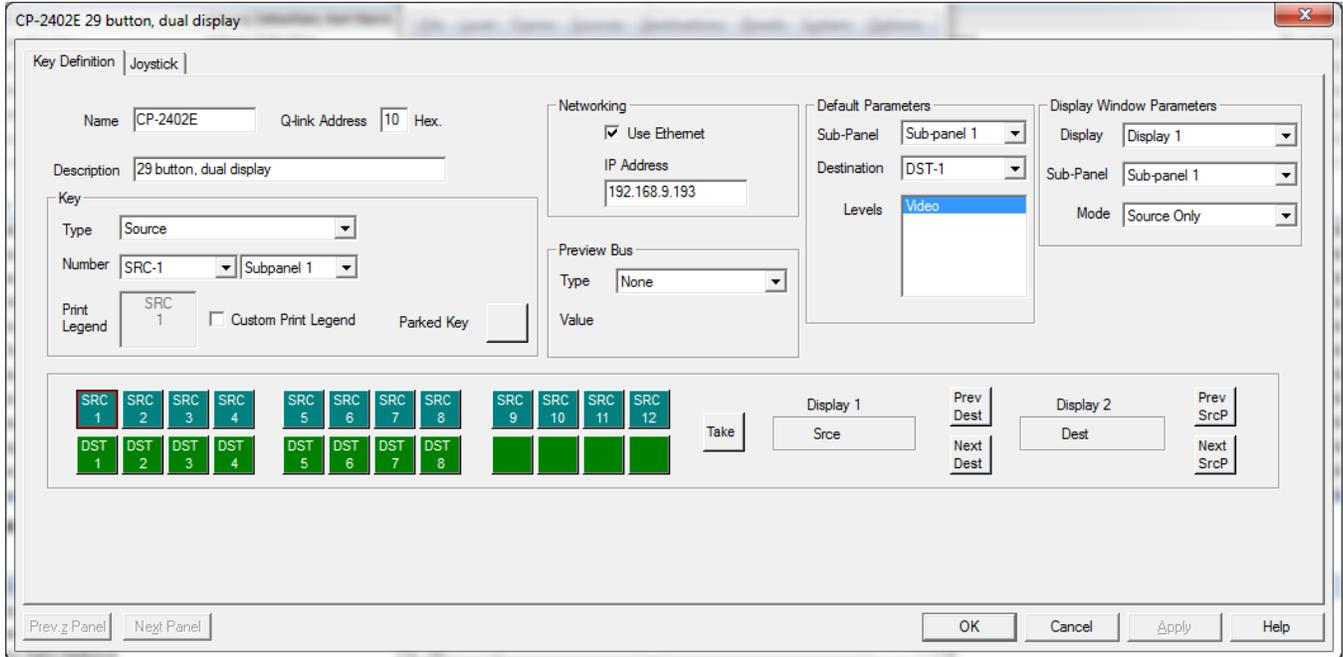

Figure 6-5: WinSetup Panel Configuration
- Panels:** Enter the panel's dialog and use the new button. This will show all Evertz panels listed by part number. Select the part number that matches the part number on the panel's serial number label. Ignore the A/E designation as the connection method for the panel that will be defined in the panel configuration dialog. Once a part number is selected, a new dialog box will appear displaying a graphic of the panel. Figure 6-5 shows the button display for the CP-2402E control panel.